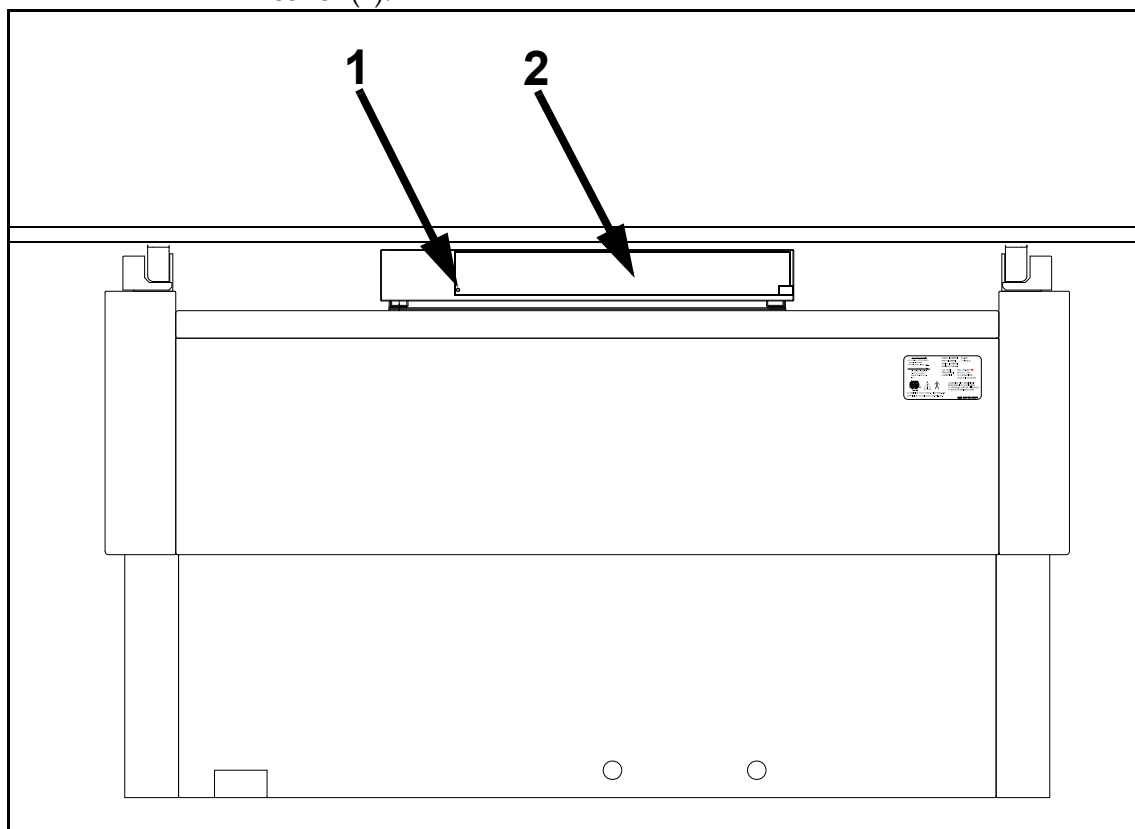

Figure 2-7. Bucky Rear Cover
- 17 Unscrew the bucky rear cover screw (1 in Figure 2-7) and remove rear cover (2).